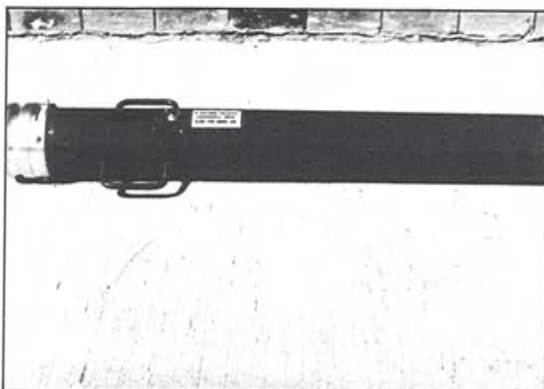

Figure 53
- 1 - 5" Full Bin Nozzle (see figure 53)